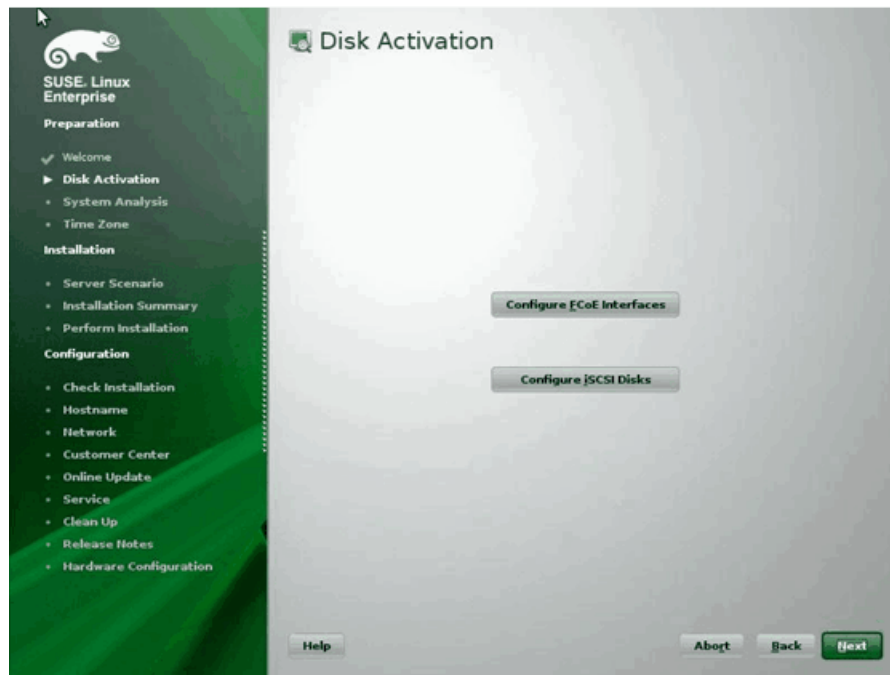

Figure 13-14. Activating the Disk
4. When requested, click **Configure FCoE Interfaces** (Figure 13-14).